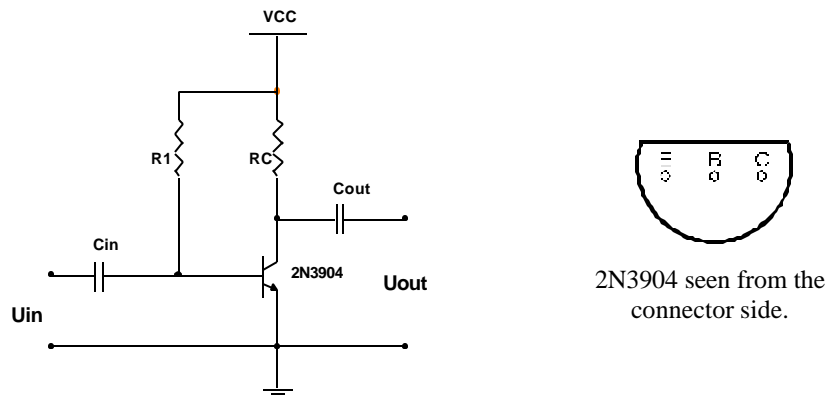

Figure 6.1
- a) A simple CE-stage with a transistor and only two resistors is shown in Figure 6.1. Calculate the values of the resistors to achieve $U_{OUT} = 7.5$. The forward base-emitter voltage drop V_{BE} can be assumed to be 0.7 V and the current amplification factor, β is 200 and $I_{Cmax} = 200$ mA.
Connect the circuit in Figure 6.1, with the resistor you have chosen. Use 100 μ F capacitors (for C_{in} and C_{out}) and a 2N3904 transistor. Measure the achieved voltage U_{CEQ} . Does the measured value differ from 7.5 V? Squeeze the transistor between your fingers. Can this affect the output voltage? Why?